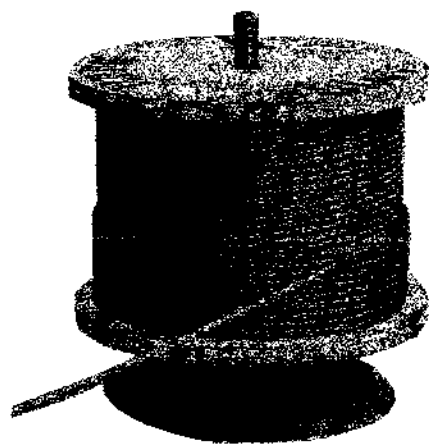

Figure 20. A vertical unreeling stand.
- 2) Another method involves mounting the reel on an unreeling stand (Fig. 20). It is then unwound in the same manner as described above (1). In this case, however, greater care must be exercised to keep the rope under tension sufficient to prevent the accumulation of slack. Slack can allow the rope to drop below the lower reel head and be damaged or loose wraps on the reel to fall over the rope coming off the reel and become tangled.